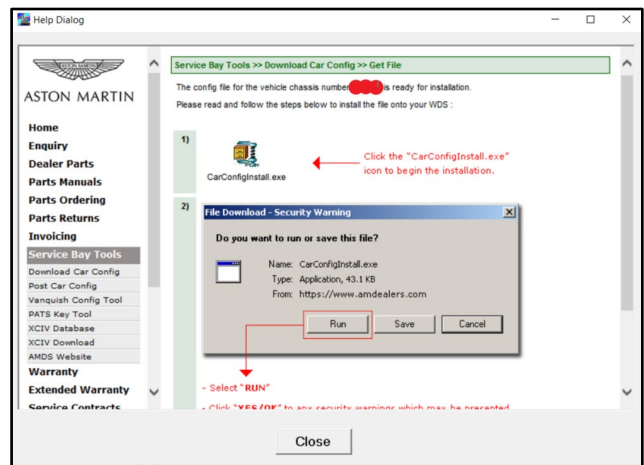

Figure 6
11. In the next pop-up window, follow the instructions to install the Car Config file (refer to Figure 6).